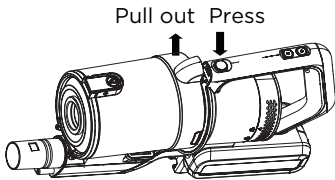

Fig. 11
2. Click the dust container release button, located on the front of the handle just above the dust container and pull dust container out (Fig 11).